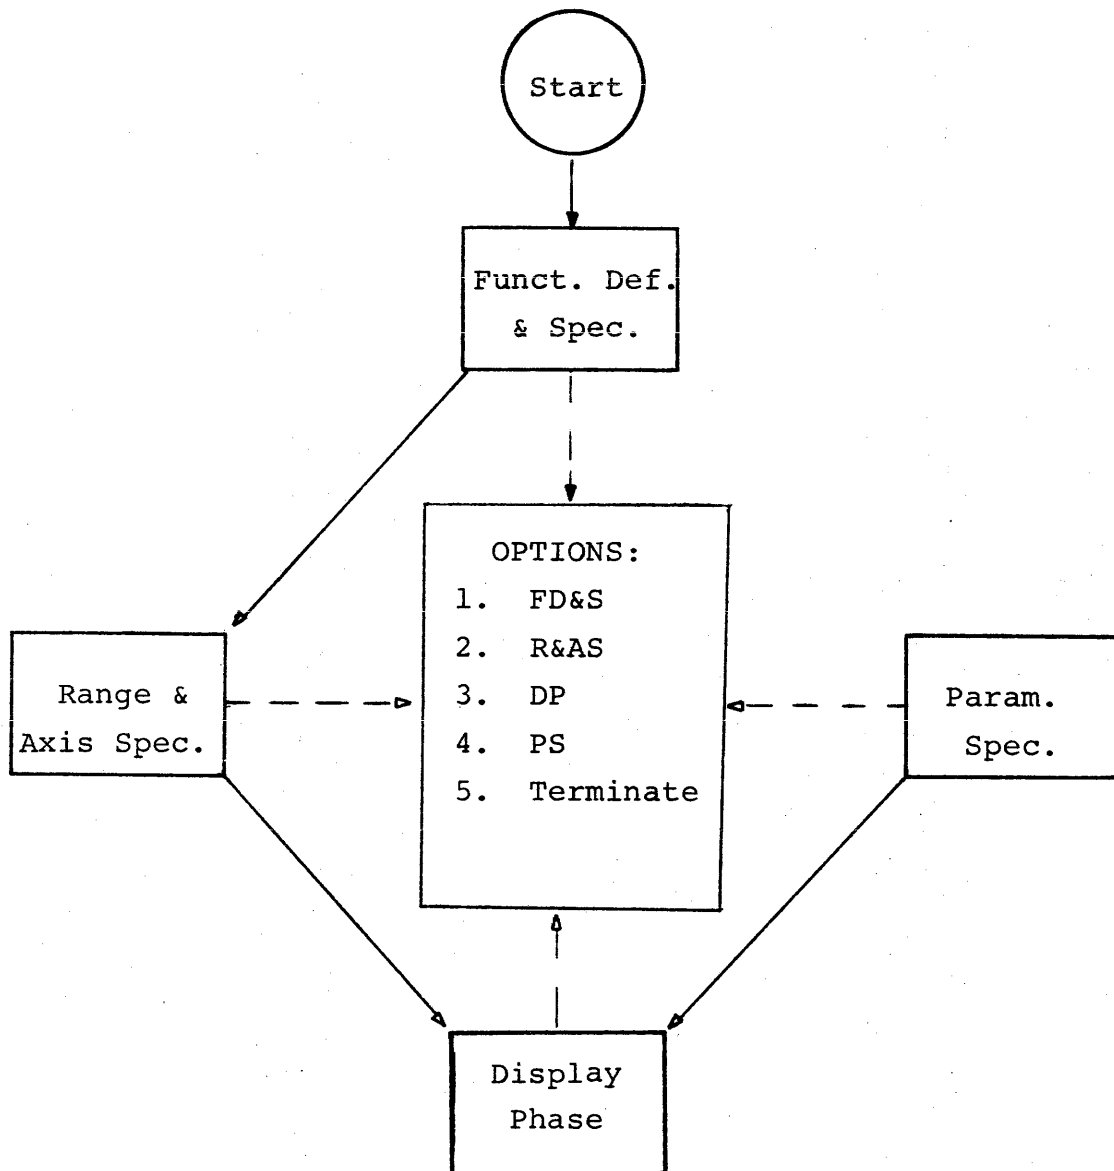

Figure 1
- C) Display Phase (DP)
- D) Parameter Specification (PS)
To utilize GROPE efficiently it is necessary to understand the purpose of each phase, the relationships between phases, and how to transfer from one phase to another. A schematic representation of GROPE is shown in Figure 1. The solid lines indicate the natural flow from one phase to another and this is achieved by depressing the carriage return button (CR)[†] at the end of each phase. The natural flow of GROPE is the same as the procedure followed when producing graphs by hand. That is, the first phase, FD&S, allows functions to be defined, parameter values to be assigned, and specification of the types of plots to be made. The second phase, R&AS, requests information concerning the extremities of the axis and the location of the axis origin. When the pre-plotting information is complete, the Display Phase is entered, axes drawn, plots labelled, and the specified functions plotted.
Program execution should be terminated by typing QUIT,T(CR) which is the last option shown in Figure 1. This type of orderly termination allows the GROPE staff to keep statistics on the use of the system.